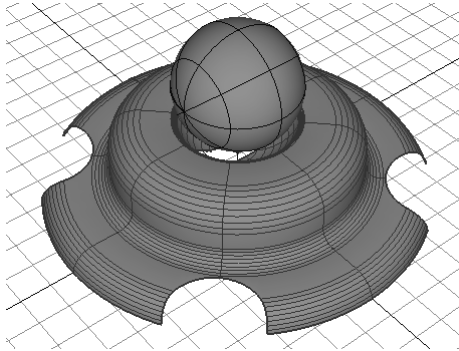

Figure 7-61 Body of the camera scaled
4. Choose the **Scale** button from the **Transform** tab in the **Palette** and scale the body of camera with a suitable scale factor. The body after scaling what is displayed, as shown in Figure 7-61.